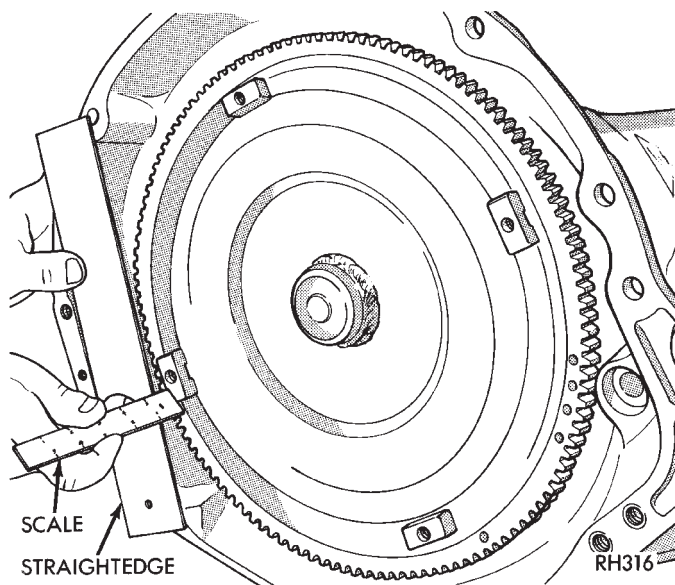

Fig. 59 Typical Method Of Checking Converter Seating
- (4) Align and install converter in oil pump.
- (5) Carefully insert converter in oil pump. Then rotate converter back and forth until fully seated in pump gears.
- (6) Check converter seating with steel scale and straightedge (Fig. 59). Surface of converter lugs should be 1/2 in. to rear of straightedge when converter is fully seated.
- (7) Temporarily secure converter with wedge tool or C-clamp.